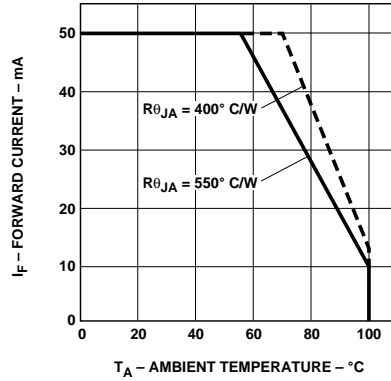

Figure 5. Maximum Forward DC Current vs. Ambient Temperature. Derating Based on  $T_{JMAX} = 110\text{ }^{\circ}\text{C}$ .
3. Derate linearly as shown in Figure 5.